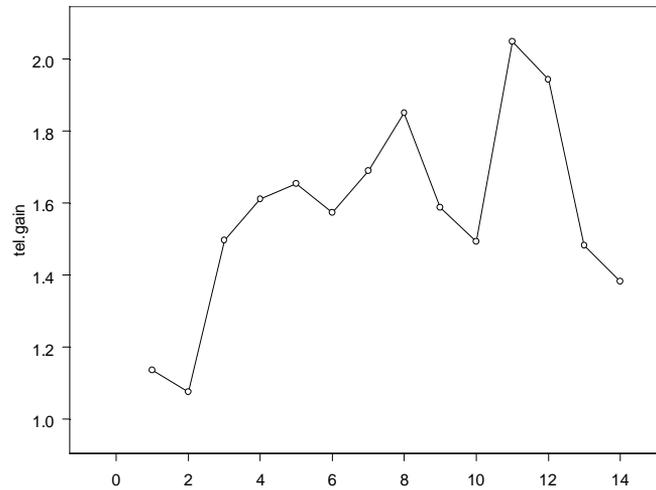

Figure 3.21: *Line with points plot of tel.gain.*
- Click the **Line Scatter** button  on the **Plots 2D** palette. The resulting graph is shown in Figure 3.21.